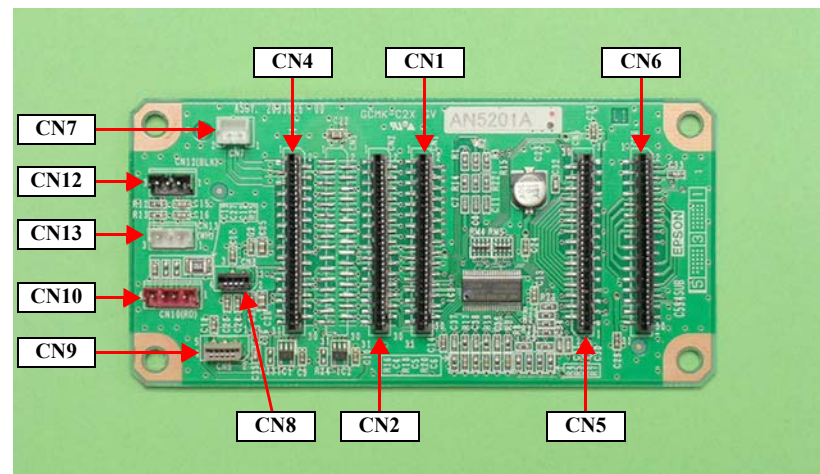

Figure 4-44. Connector Locations
5. Disconnect the all connectors and FFCs from the BOARD ASSY., SUB. *See Figure 4-44.*
Connect the FFCs to their correct positions matching the numbers written on the FFCs with those printed on the board as shown in Figure 4-44.